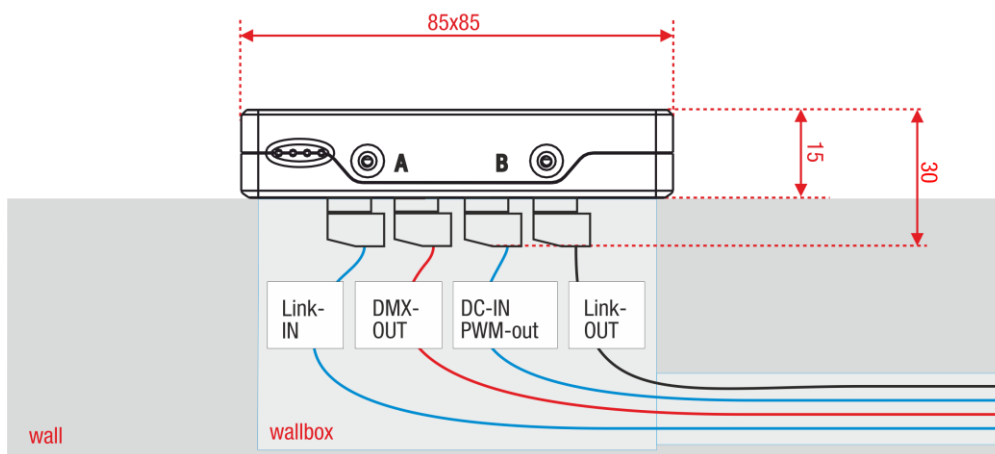

Fig. 04
- 06) Mount the DLC-4 on a wallbox, see Fig. 04.